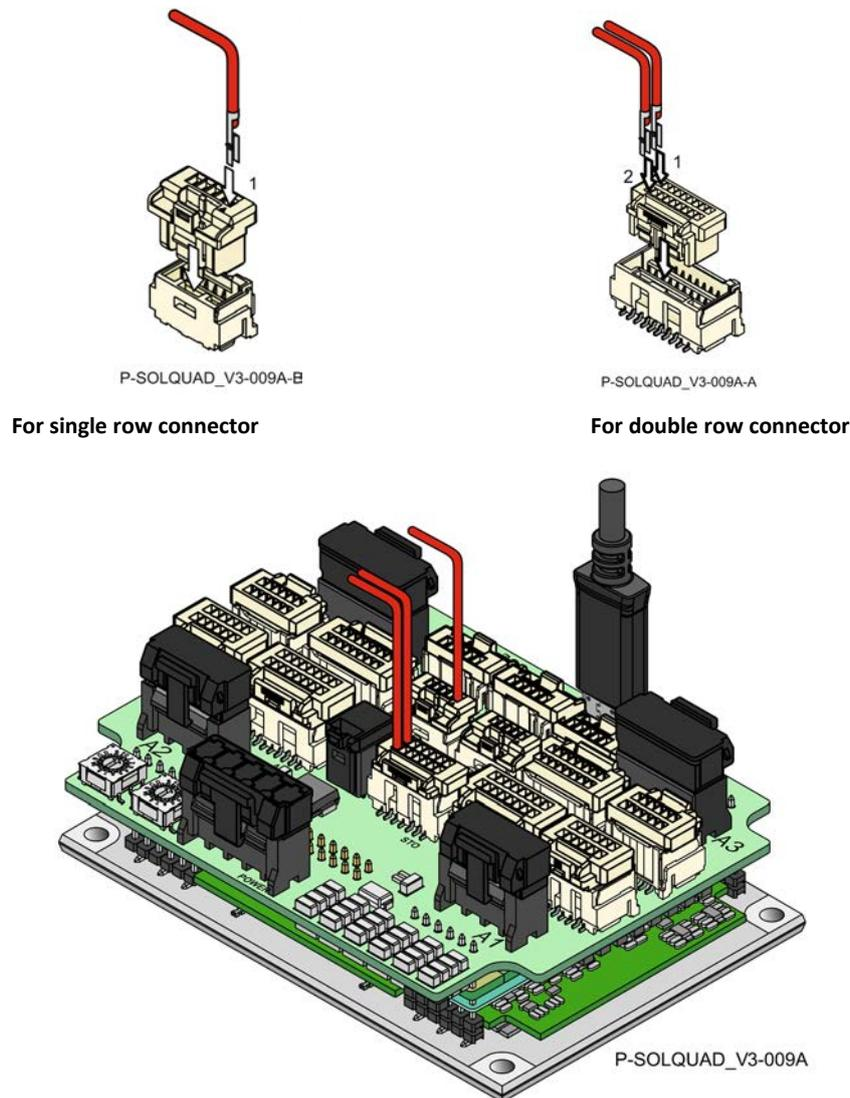

Figure 12: Inserting a wire/pin to the Female CON CLIK-MATE Connector
3. Place the connector on a flat surface, in the orientation as shown in Figure 12. Notice that the rectangular slot has a niche at the bottom of the slot.
4. Insert the wire connector to the slot as shown in Figure 12. Make sure that the connector protrusion is inserted to the bottom of the rectangular slot.
When inserting the wire connector to a slot in the second row, make sure to orientate the wire pin in the direction shown in Figure 12.